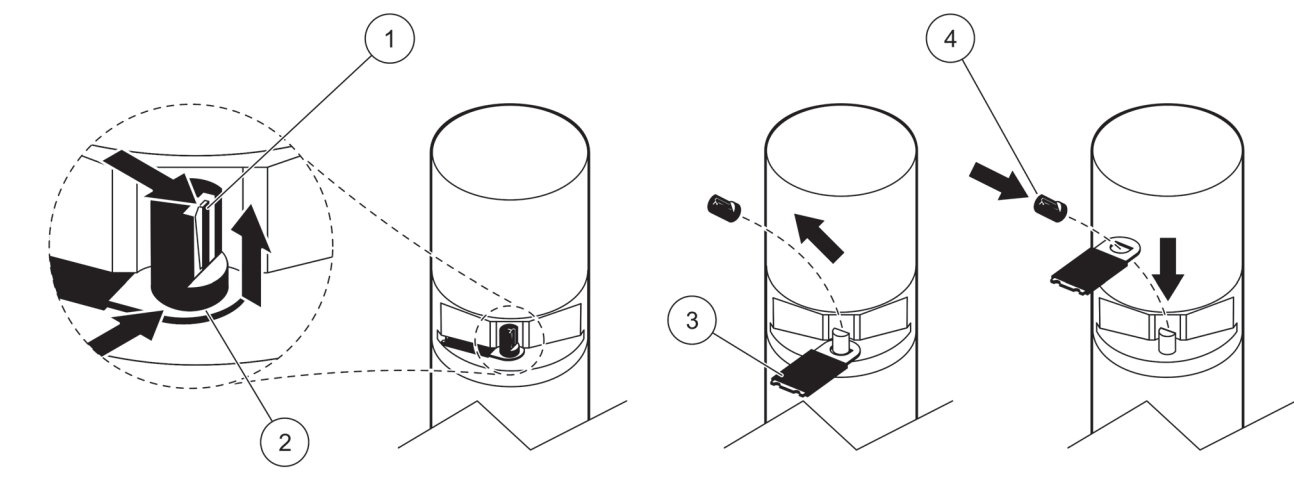

Figure 1 Changing wiper profile
Refer to Figure 1 and the following steps to change the wiper profile.
9. Lift the retaining strap (Figure 1, item 1), move the cap bottom up and remove it (Figure 1, item 2 and 3).
11. The wiper extends automatically. Exchange the wiper profile (Figure 1, item 4) and replace the cap to lock in place (Figure 1, item 5).